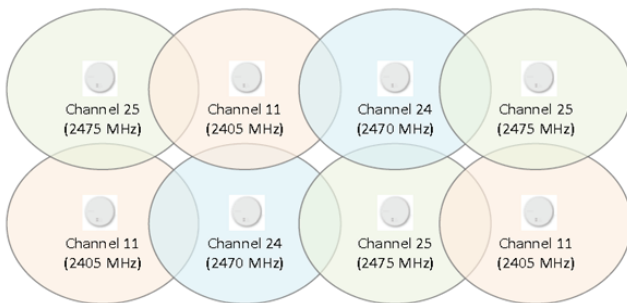

Figure 12 - Three Channel Reuse Plan for Single Floor with Multiple Subnets
- Lutron recommends a three-channel reuse plan throughout the space as shown in Figure 12. The gateway and Lutron Designer PC and Programming Tool cycle through the 3 default channels as additional gateways get added to the job site. It is up to the installer to ensure that the location and coverage of the gateways adheres to the recommendations. If need be, the installer can choose a different set of channels through the Lutron Designer PC and Programming Tool based on results from site surveys or inputs from site owners.